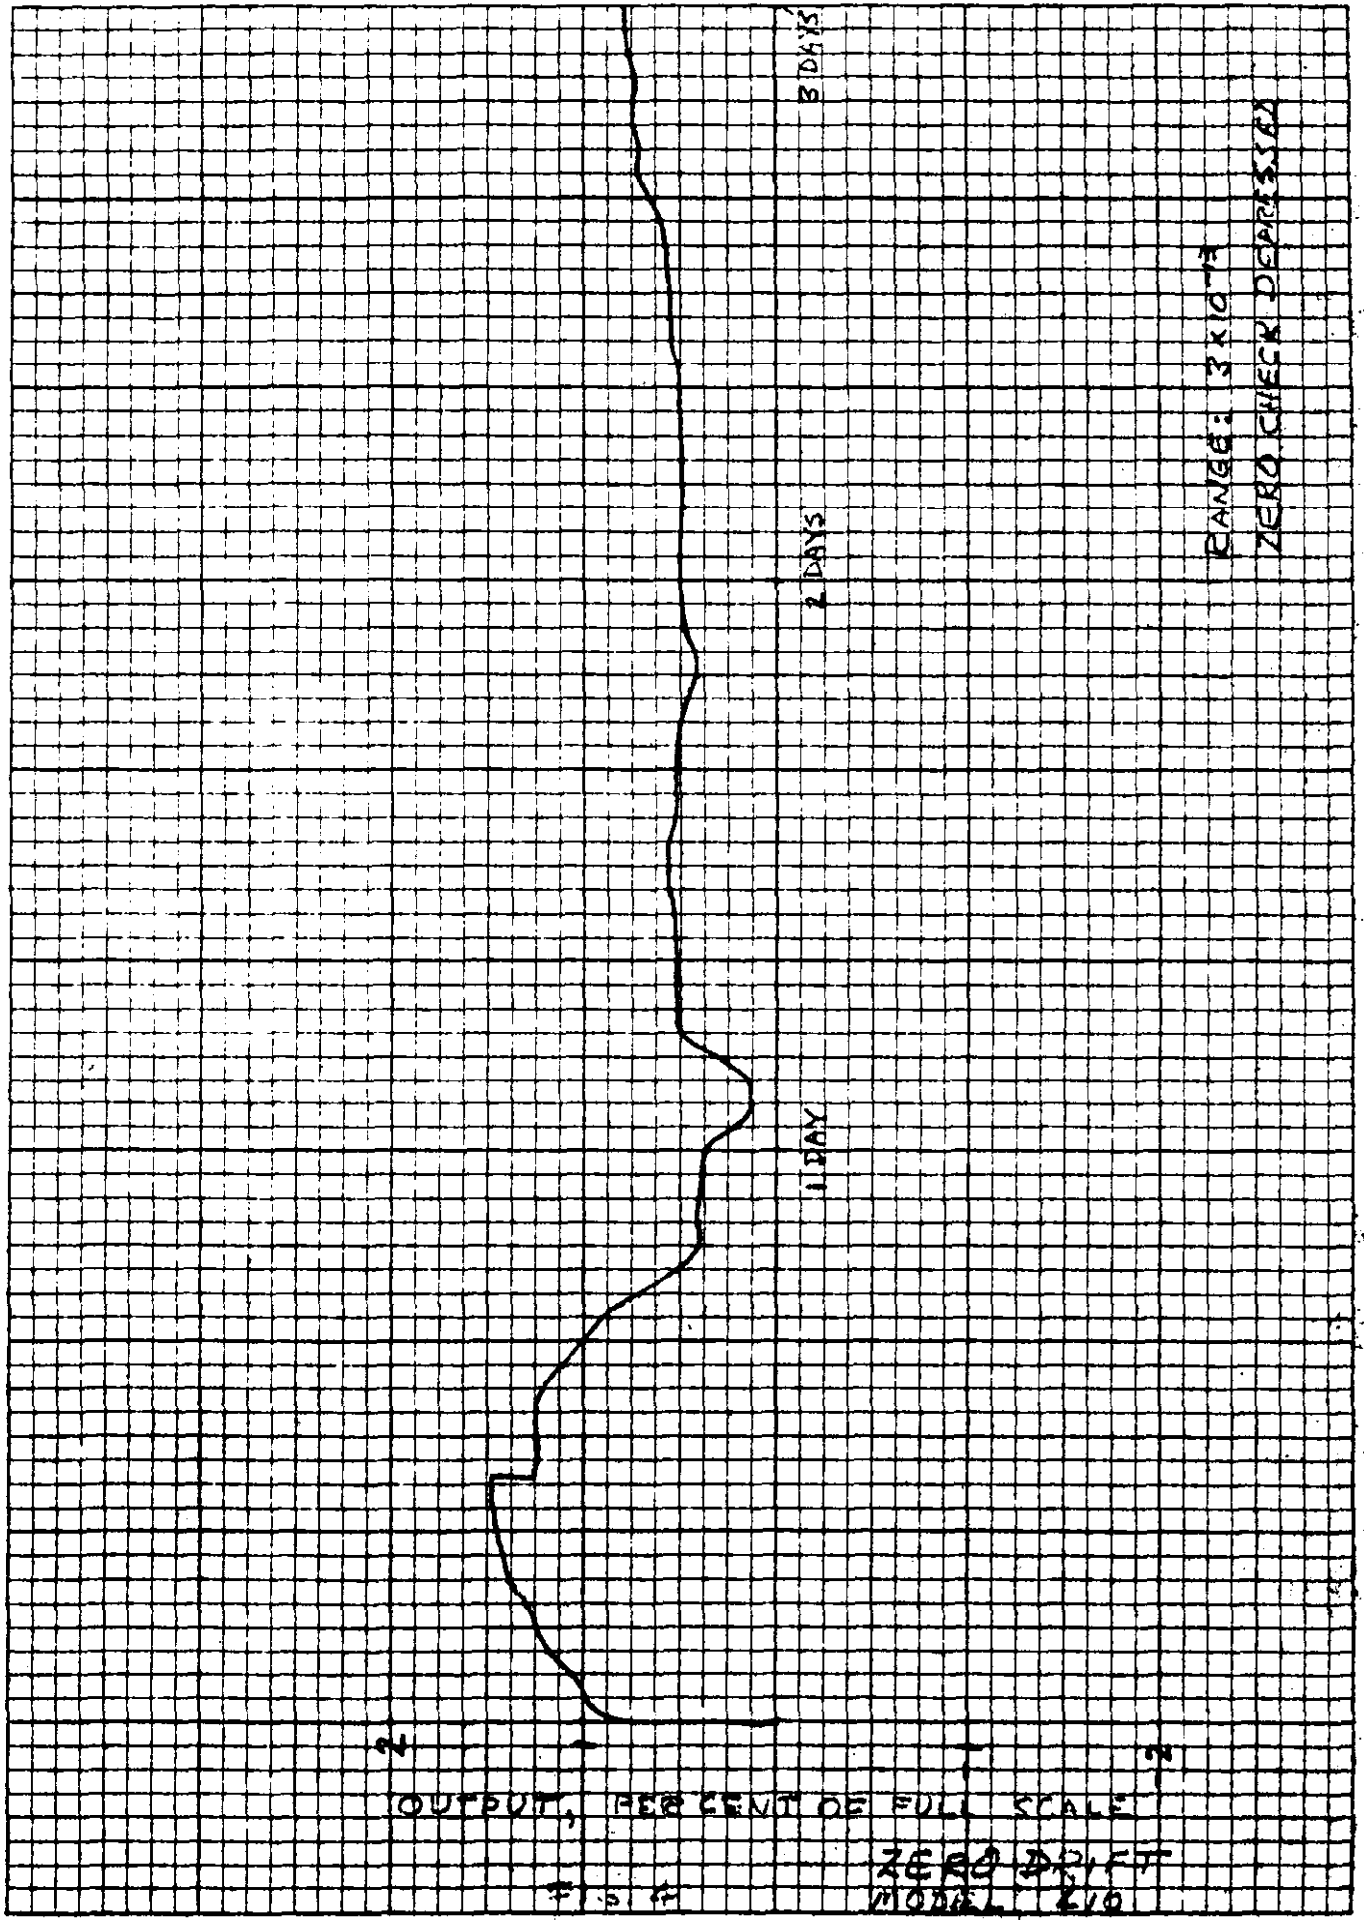

FIG. 4
Figure 4 shows the 3-day drift record of a "typical" unit. Remember that,
shown (on the 3×10^{-13} range, the feedback voltage is .3 volts). Thus, on any range above 10×10^{-8} ($e_f = 5v$) the scale of Fig. 4 could be compressed 16.7 times.
4. Drift record (Fig. 4) should have the scale compressed 33 times.